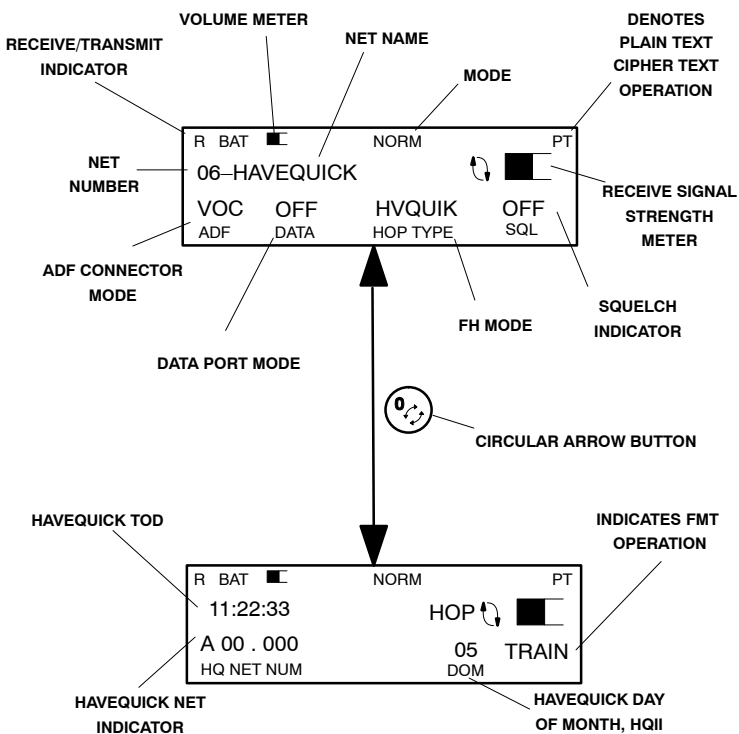

Figure 25. HAVEQUICK Displays
- e. Press the **NET/PRE** + or – button to scroll to the desired **HAVEQUICK** net. Begin radio operations. See Figure 25 for operational displays.